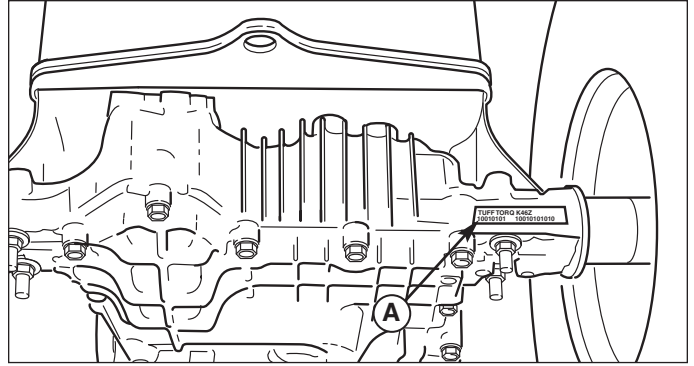

Figure 11. Transmission ID Tag Location
The maximum horizontal drawbar force allowed is 280 Nm. The maximum vertical drawbar force is 160 Nm. This equates to a 250 lbs (113 kg) trailer on a 10 degree hill. Secure the trailer with an appropriately sized clevis pin (A, Figure 11) and clip (B).
To determine what transmission is in your tractor, check the identification tag attached to the axle of the transmission (Figure 11), or check your tractor's illustrated parts list.